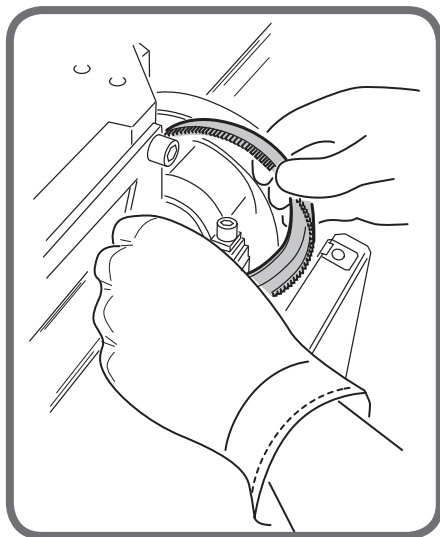

fig.2
- unscrew the 4 fixing screws then disassemble the disk (Figs.2 and 3), after using nippers to cut the two junction teeth in line with the “0” notch;